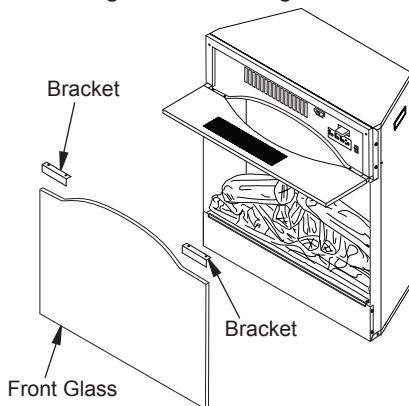

Figure 10 - Removing Brackets and Front Glass
- Carefully remove front glass and brackets (see Figure 10).